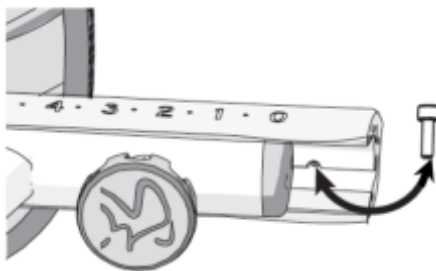

Figure 2
- 2 Loosen the seat adjustment knob, seen in figure 2 on bottom side of rail.
- 3 Remove the stop screw from the underside of the slider, see Figure 2.